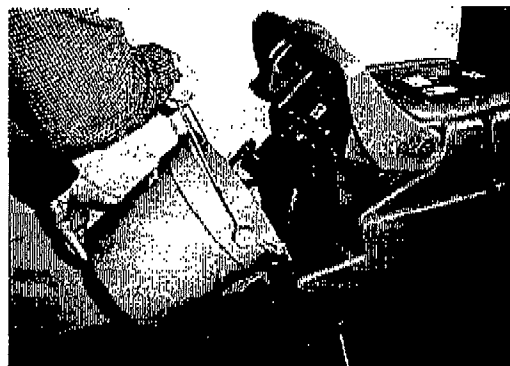

FIG. 17
4. Fill solution tank with 28L (7.5 gal) of clean water, 60°C (140°F) maximum temperature. To fill with bucket, use a bucket with a spout (Figure 17).